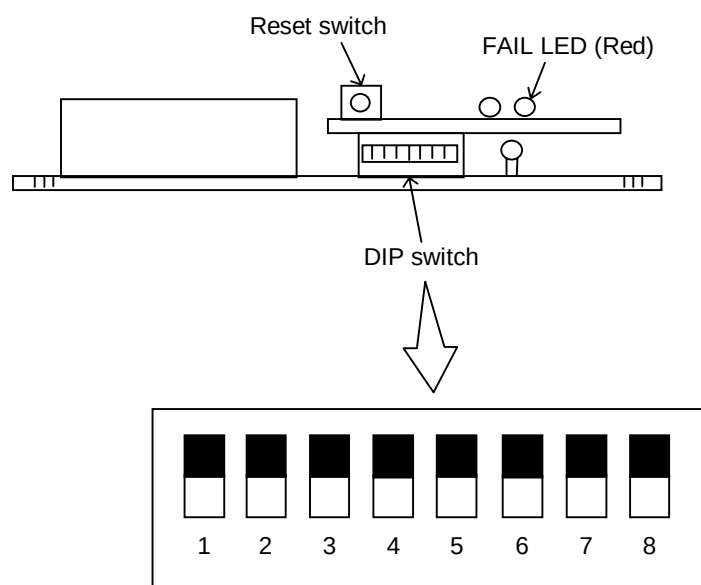

Figure 14.3 Replacing LAN ASSY (3)
(1) Procedure
- ① Open rear cover 1 and rear cover 2. (See RH-REP0170.)
- ② Disconnect the cable (RS232C).
- ③ Set No.8 DIP switch of the corresponding CTL ASSY.
- ④ Push the reset switch of the corresponding CTL ASSY.
- ⑤ Wait ten seconds, check to see that the FAIL LED on the CTL ASSY comes on and it enters the blocked state. (See Figure 14.3.)
- ⑥ Open the right and left levers to the direction of arrows (→) at the same time then remove the CTL ASSY.
- ⑦ Remove the LAN ASSY by pulling it upward. Then mount a new LAN ASSY by aligning its mounting holes with the card spacers and pressing the LAN ASSY against the spacers until it is latched with clicks.
- ⑧ Set No.8 of DIP switch to as shown.
- ⑨ Reinstall the CTL ASSY.
- ⑩ Close the rear cover 1 and rear cover 2. (See RH-REP0170.)